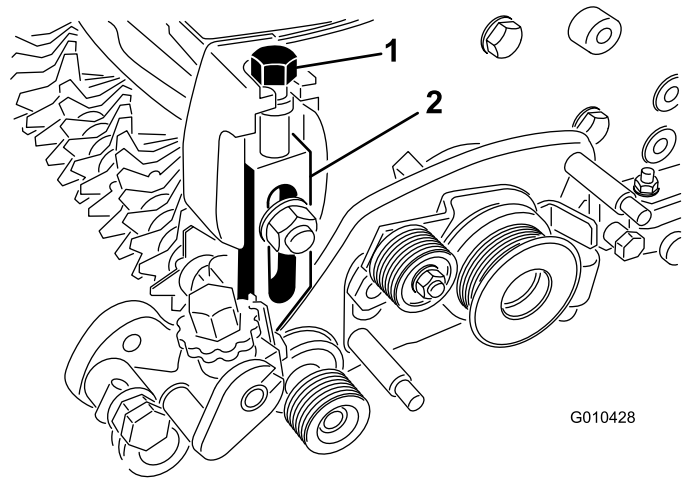

Figure 14
6. Thread the height-of-cut adjusting bolt into the top of the left adjuster-arm assembly (Figure 14).
7. Install the left adjuster-arm assembly to the cutting-unit sideplate using the existing carriage bolt, nut, and washer (Figure 14).
10. Thread the height-of-cut adjusting screw into the top of the right adjuster-arm assembly (Figure 14).
12. Install the right adjuster-arm assembly to the cutting-unit sideplate using the existing carriage bolt, nut, and washer (Figure 14).